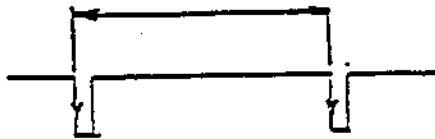

FIGURE 4
2)-6 Adjust counter reading until it comes within specifications using SPM VR (see Figure 4).